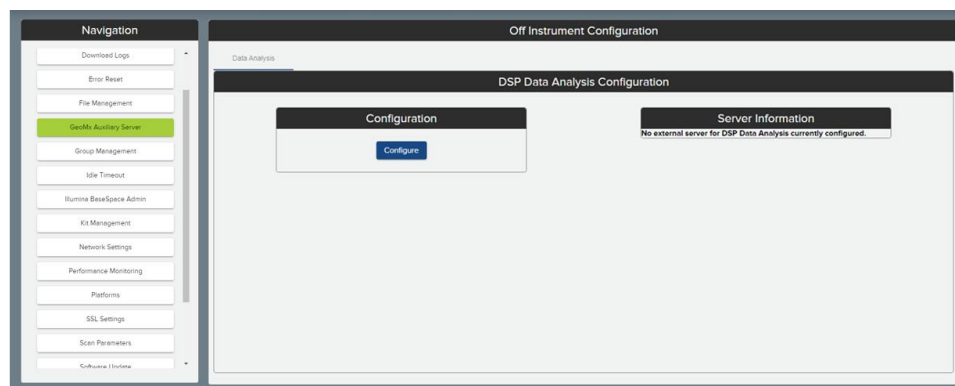

Figure 69: Auxiliary server configuration window before pairing
2. Click the **Configure** button (see Figure 69).